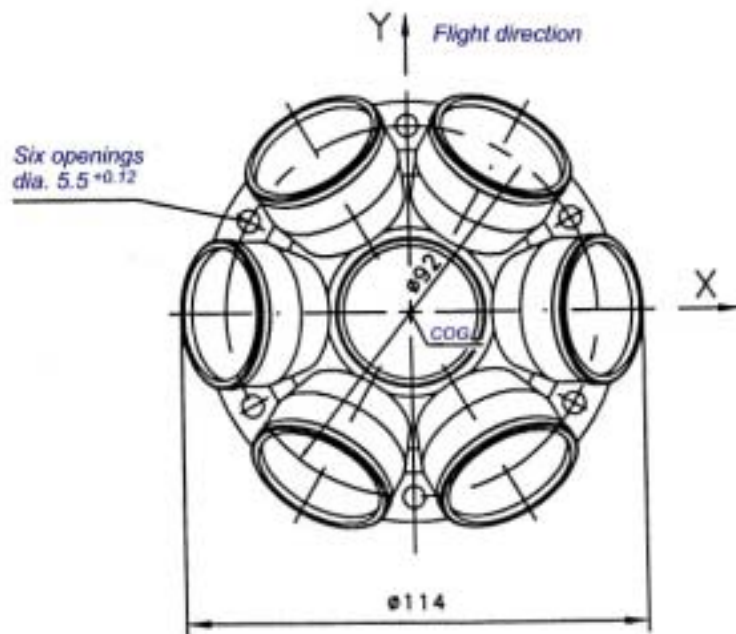

Fig. 1
2.4.1. This CryoSat-LRR-01 Laser Retro Reflector includes seven panel-mounted Laser Reflectors. See Fig. 1 below for the general view and dimensions of the CryoSat-LRR-01 Laser Retro Reflector.